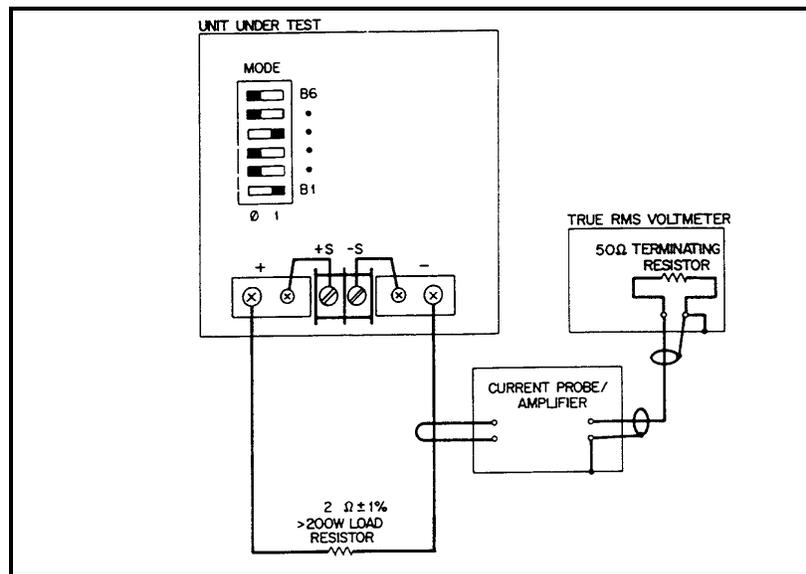

Figure 2-8. CC PARD Test Setup
- a. Connect the test equipment as shown in Figure 2-8.